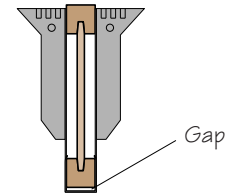

Figure 1
**B. TJI® joists improperly seated in hangers** may create a gap between the bottom of the joist and the seat of the hanger. This gap allows movement when a load is applied, resulting in a squeak (Figure 1).